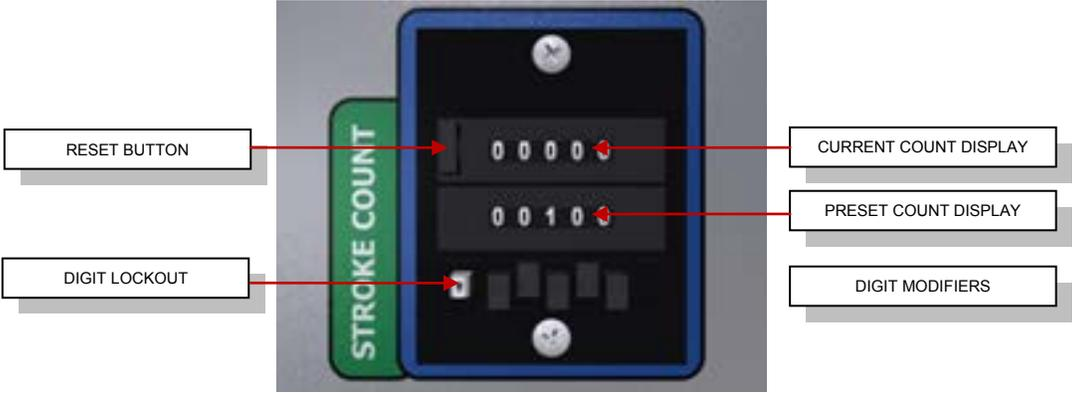

Fig. 6
Adjust the predetermining counter to set the number of required pump strokes for the injection. See figure 6 for an overview of the predetermining stroke counter. To change the preset count, press and hold the white button with arrow decal while pressing one of the black buttons under the preset count corresponding with the digit to be modified.
***NOTE: The machine cannot be started in inject mode, if a previous injection has stopped automatically when the shot count has been reached and the stroke count has not been reset. Press the reset button on the predetermining counter to reset the count and allow the machine to be started. See figure 6***